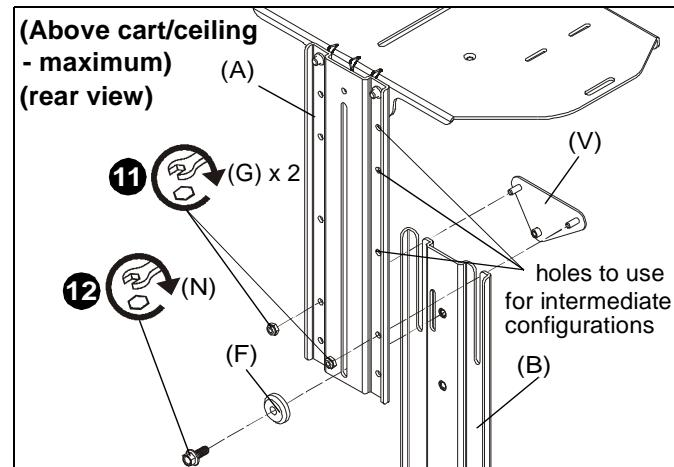

Figure 24
11. (For maximum/intermediate extension) Use two #10-24 lock nuts (G) to secure upright bracket (A) to main bracket (B) and adapter plate (V). (See Figure 24)
12. (For maximum/intermediate extension) Use 1/4-20 x 5/8" hex head flange bolt (N) and center washer (F) to secure upright bracket (A) to main bracket (B). (See Figure 24)